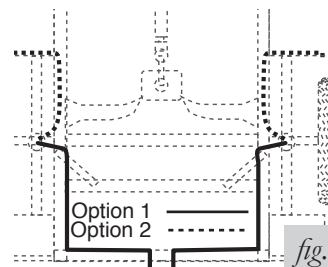

fig. 11
- Route the air line along the frame to the air fitting on the air spring (Fig. 11). Keep AT LEAST 6" of clearance between the air line and heat sources, such as the exhaust pipes, muffler, or catalytic converter. Avoid sharp bends and edges. Use the plastic tie straps to secure the air line to fixed, non-moving points along the chassis. Be sure that the tie straps are tight, but do not pinch the air line. Leave at least 2" of slack to allow for any movement that might pull on the air line.